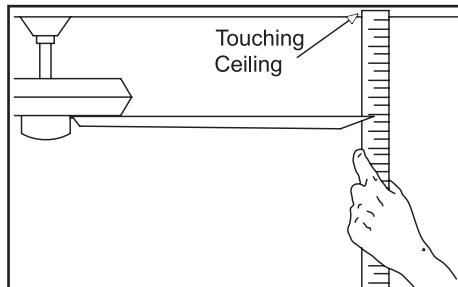

Figure 17
2. Most fan wobble problems are caused when blade levels are unequal. Check this level by selecting a point on the ceiling above the tip of one of the blades. Measure from a point on the center of each blade to the point on the ceiling. Measure this distance as shown in Figure 17. Rotate the fan until the next blade is positioned for measurement. Repeat for each blade. Measurement deviations should within  $1/8"$ . Run the fan for 10 minutes.